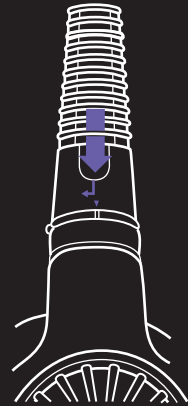

Figure 1.
5. Align the arrow on the spray cup with the double-line mark on short spray nozzle on the machine body, as shown in Figure 1.